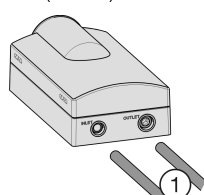

Fig. 38
- ▶ On the thin hose measure the insertion depth (E) of $21/32$ " (17 mm) and make a mark.
- ▶ On the thick hose measure the insertion depth (E) of $25/32$ " (20 mm) and make a mark.
- ▶ Insert the hoses *Fig. 38 (1)* into the water filter module as far as they will go (i.e. to the mark you made) past the point of resistance.